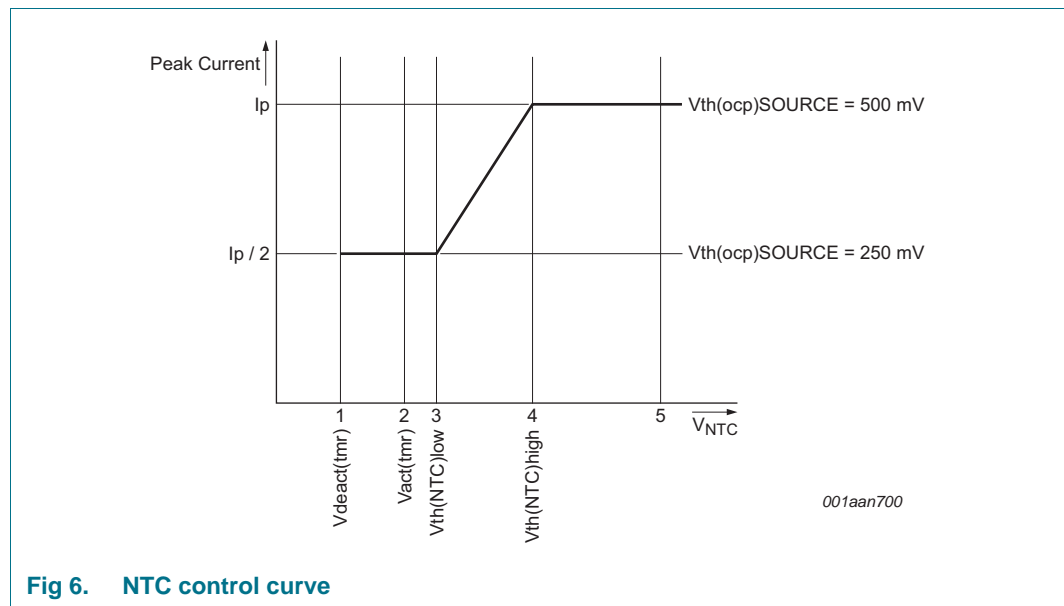

Fig 6. NTC control curve
The NTC pin can be used as a control method for LED thermal protection. Alternatively, the pin can be used as an input to disable/enable light output using a digital signal (PWM dimming). The pin has an internal current source that generates the current of  $I_{offset(NTC)}$ . An NTC resistor to monitor the LED temperature can be directly connected to the NTC pin. Depending on the resistance value and the corresponding voltage on the NTC pin, the converter reacts as shown in Figure 6.
When the voltage on the NTC pin is higher than  $V_{th(high)NTC}$  see Figure 6 (4), the converter delivers nominal output current. When the voltage is lower than this level, the peak current is gradually reduced until  $V_{th(low)NTC}$  is reached, see Figure 6 (3). The peak current is now half the peak current of nominal operation. When  $V_{act(tmr)NTC}$  is passed, see Figure 6 (2) a timer starts to run to distinguish between the following situations:
- If the low-level  $V_{deact(tmr)NTC}$  is not reached within time  $t_{to(deact)NTC}$ , Figure 6 (1) LED overtemperature is detected. The IC stops switching and attempts to restart from the HV pin voltage. Restart takes place when the voltage on NTC pin is higher than  $V_{th(high)NTC}$ , see Figure 6 (4). It is assumed that the reduction in peak current did not result in a lower NTC temperature and LED OTP is activated.
- If the low-level  $V_{\text{deact(tmr)NTC}}$  is reached within the time  $t_{\text{to(deact)NTC}}$ , Figure 6 \(1\) it is assumed that the pin is pulled down externally. The restart function is not triggered. Instead, the output current is reduced to zero. PWM dimming can be implemented this way. The output current rises again when the voltage is higher than  $V_{\text{deact(tmr)NTC}}$ .
The NTC pin can be used to make a soft start function. During switch-on, the level on the NTC pin is low. By connecting a capacitor (in parallel with the NTC resistor), a time constant can be defined. The time constant causes the level on the NTC pin to increase slowly. When passing level  $V_{\text{th(low)NTC}}$  Figure 6 \(3\), the convertor starts with half of the maximum current. The output current slowly increases to maximum when  $V_{\text{th(high)NTC}}$  Figure 6 \(4\) is reached.